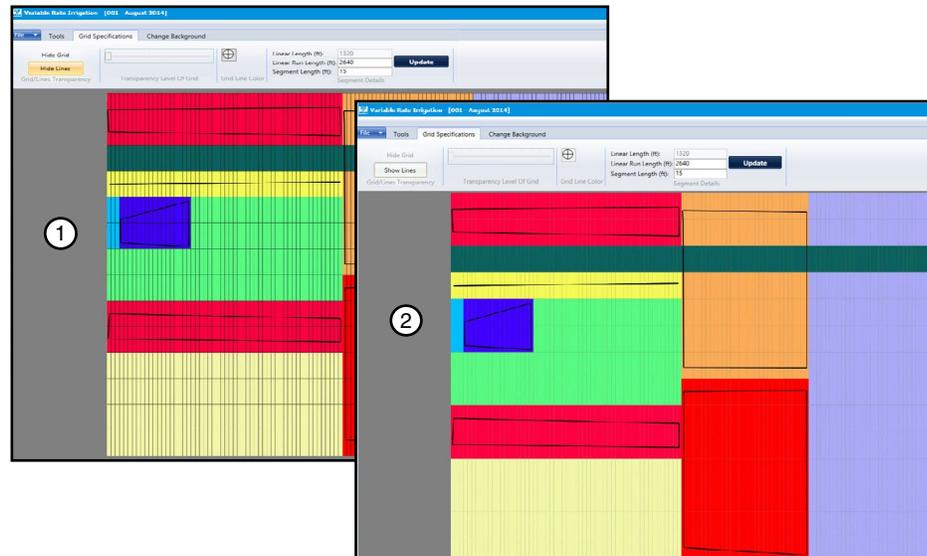

Figure 25-1 1. Before 2. After
**Hide/Show Lines** - You can hide the lines from view by clicking the **Hide Lines** button. You will still see any text you have added to the grid and any polygon lines you may have drawn. See Figure 25-1.